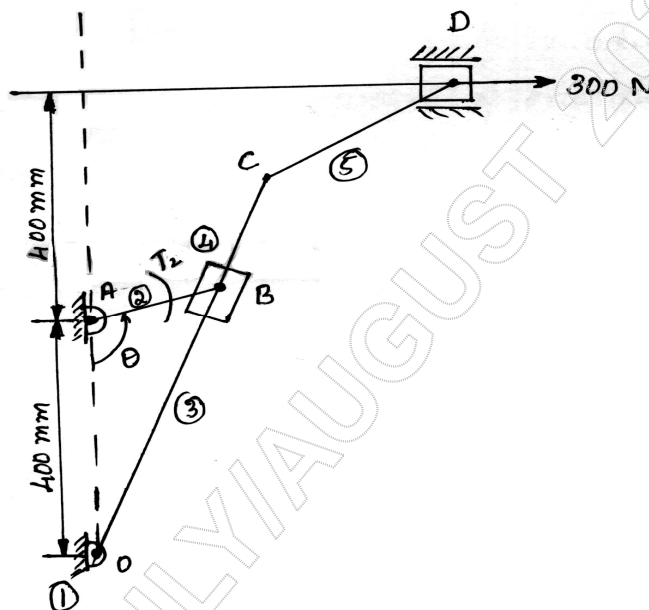

Fig Q4
- 4 For the static equilibrium of the quick return mechanism shown in Fig Q4. Find the required input torque T_2 for the force of 300N on the slider D. Angle $\theta = 105^\circ$. Coefficient of friction $\mu = 0.15$ for each sliding pair. The impending motion of the slider is to the left. Solve by Graphical method. Given $AB = 200\text{mm}$; $OC = 800\text{mm}$; $CD = 300\text{mm}$.